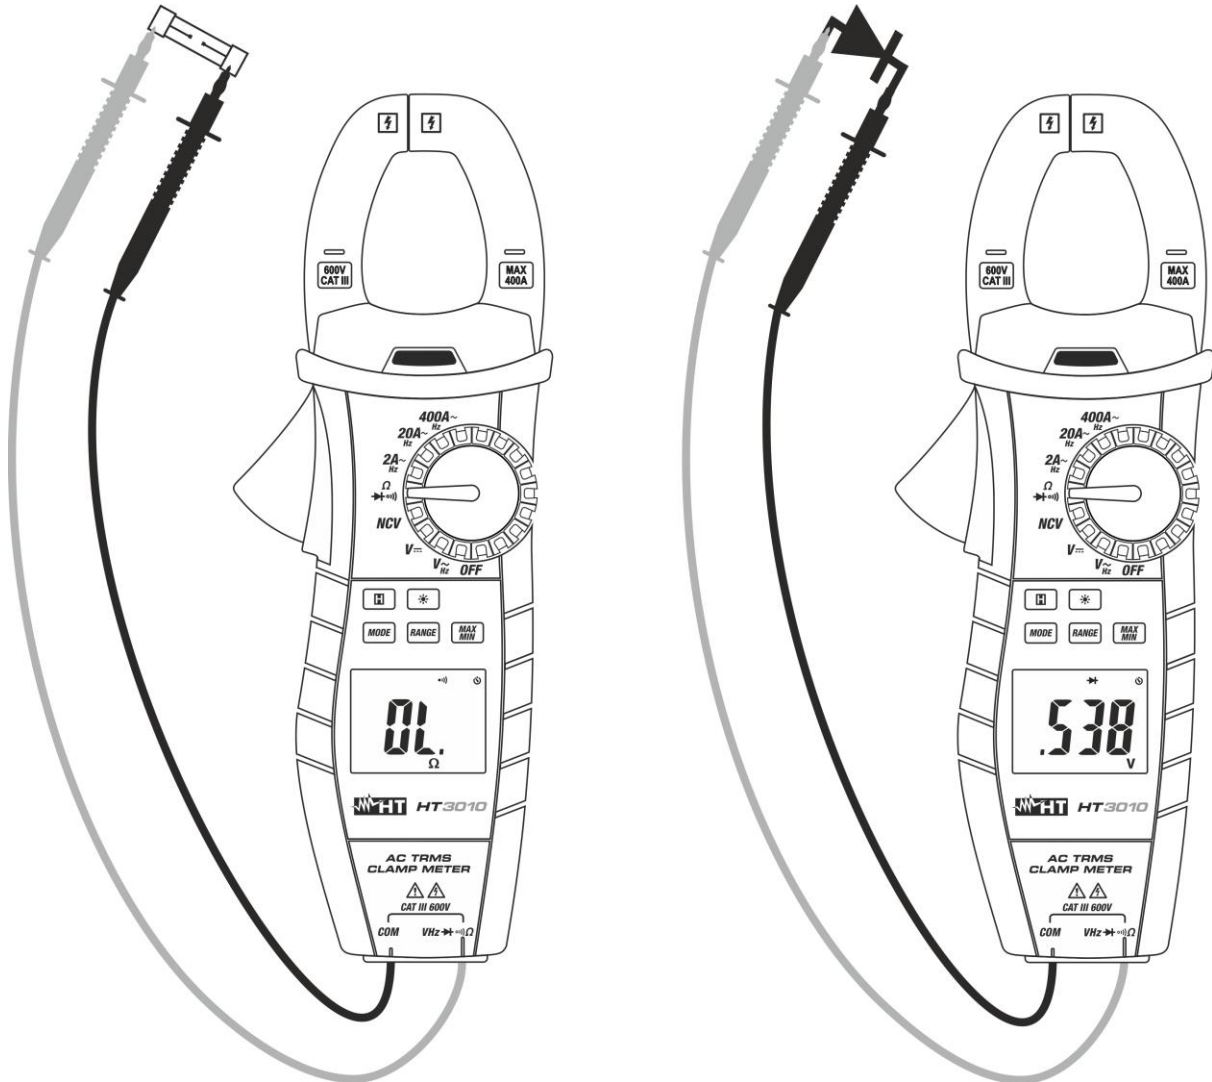

Fig. 7: Use of the instrument for continuity test and diode test
3. Insert the red cable into input terminal **V Ω Hz $\rightarrow \rightarrow \rightarrow$** and the black cable into input terminal **COM** and carry out the continuity test of the object to be measured (see Fig. 7– left side). An buzzer sounds when the measured value of resistance is lower than 30Ω
5. Connect the red lead to the anode of the diode and the black lead to the cathode in case direct polarization measurement is carried out (see Fig. 7 – right side). Invert the position of the leads in case reverse polarization measurement is carried out.